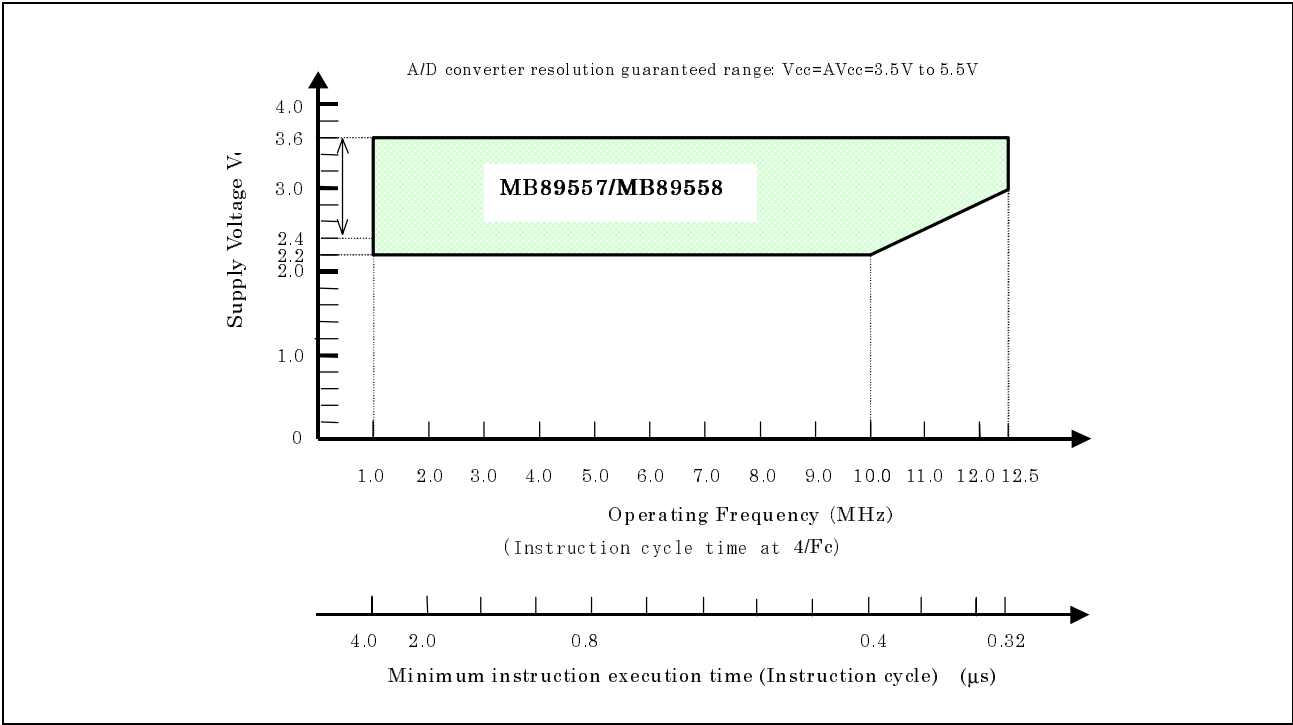

Figure 1: Operating Voltage vs. Main Clock Operating Frequency (MB89558A/557A)
*1: The operating voltage vary with the instruction execution time (instruction cycle time) of clock frequency. See figure 1 in details.